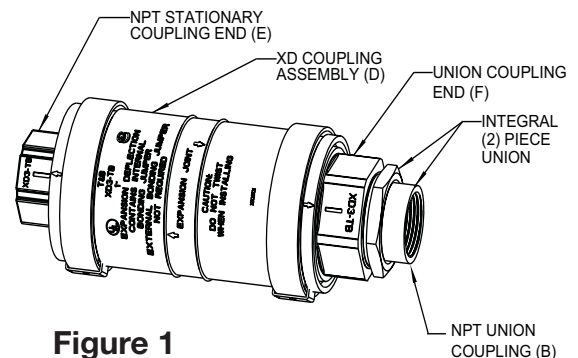

Figure 1
The XD Expansion/Deflection coupling units come from the factory with the integral (2) piece union. See Fig.1.